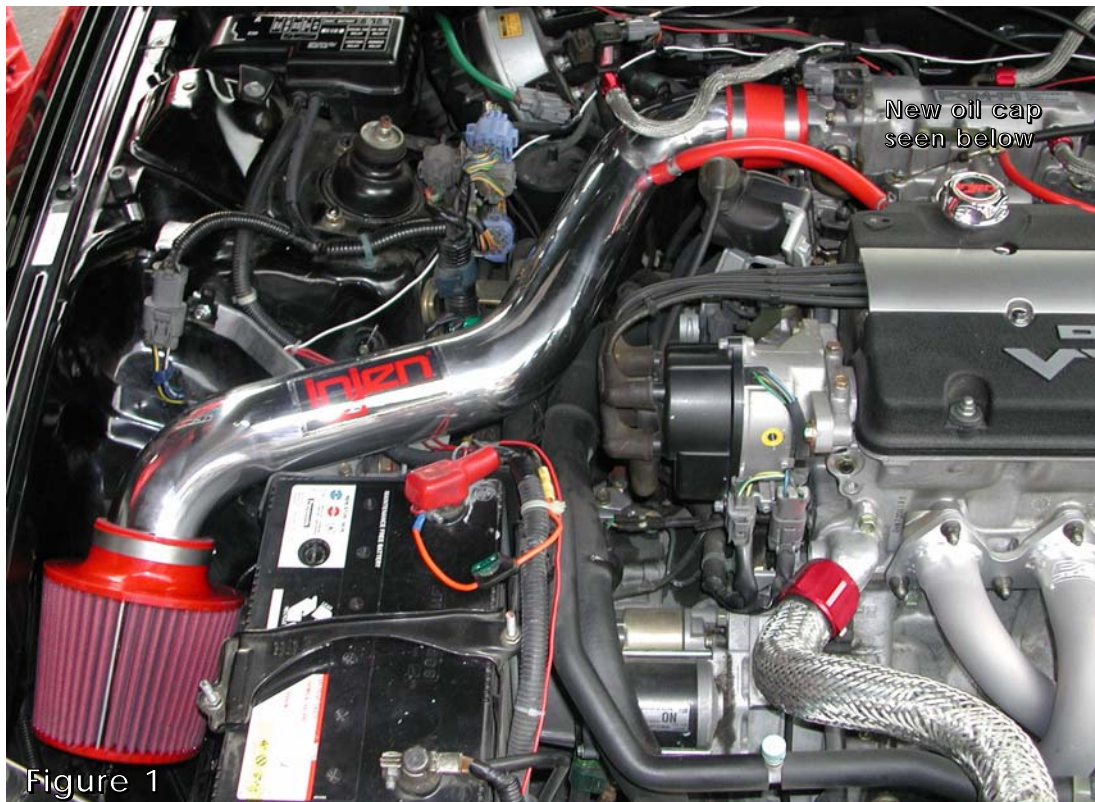

Figure 1
7. Place the 3" Injen filter on the end of the intake and tighten the clamp on the filter. See fig. 1
8. Align the entire intake for best fit. Once proper clearance has been made through-out the length of the intake continue to tighten all nuts, bolts and clamps. See fig. 1